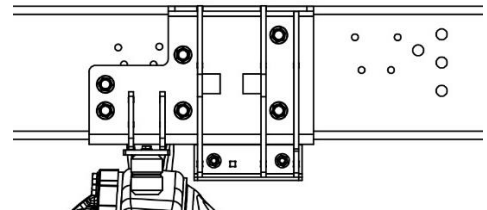

Figure 13. Driver Side (LH) Upper Strut Mount Installation.
- Using the holes drilled in the *Frame Preparation* step, loosely attach the LH Upper Strut Mount and Track Rod Mount to the frame located just behind and above the rear axle using (6) 5/8"-11 x 2" Hex Flange Bolts and (6) 5/8"-11 Locking Flange Nuts. Refer to Figure 13. Note orientation of the Track Rod Mount as shown above.